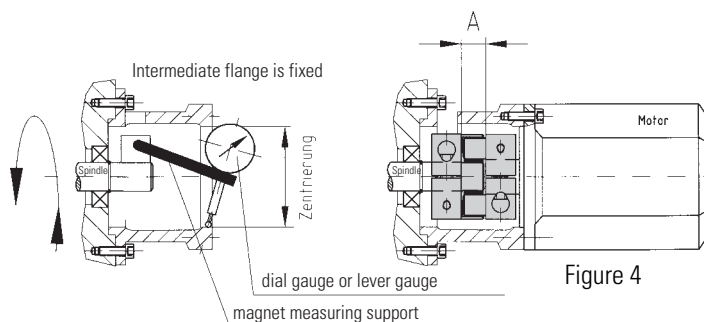

Figure 4
Lateral misalignment has a negative effect on the service life to the elastomer. Exact alignment of the coupling considerably increases the service life of the elastomer. By reducing or eliminating lateral misalignment the radial loading of the adjacent bearings is eliminated increasing service life and reducing heat. For drives running at high speed we recommend aligning the R+W coupling with a dial indicator (figure 4 & 5).
Pull the coupling halves apart and remove the axial fastening screws (E). Threaded holes have been machined into the hub to accept the fastening screws which will now be used to push off the tapered ring (figure 4). **CAUTION:** Prior to re-assembly make sure the fastening screws are in the proper holes to draw in the taper ring.